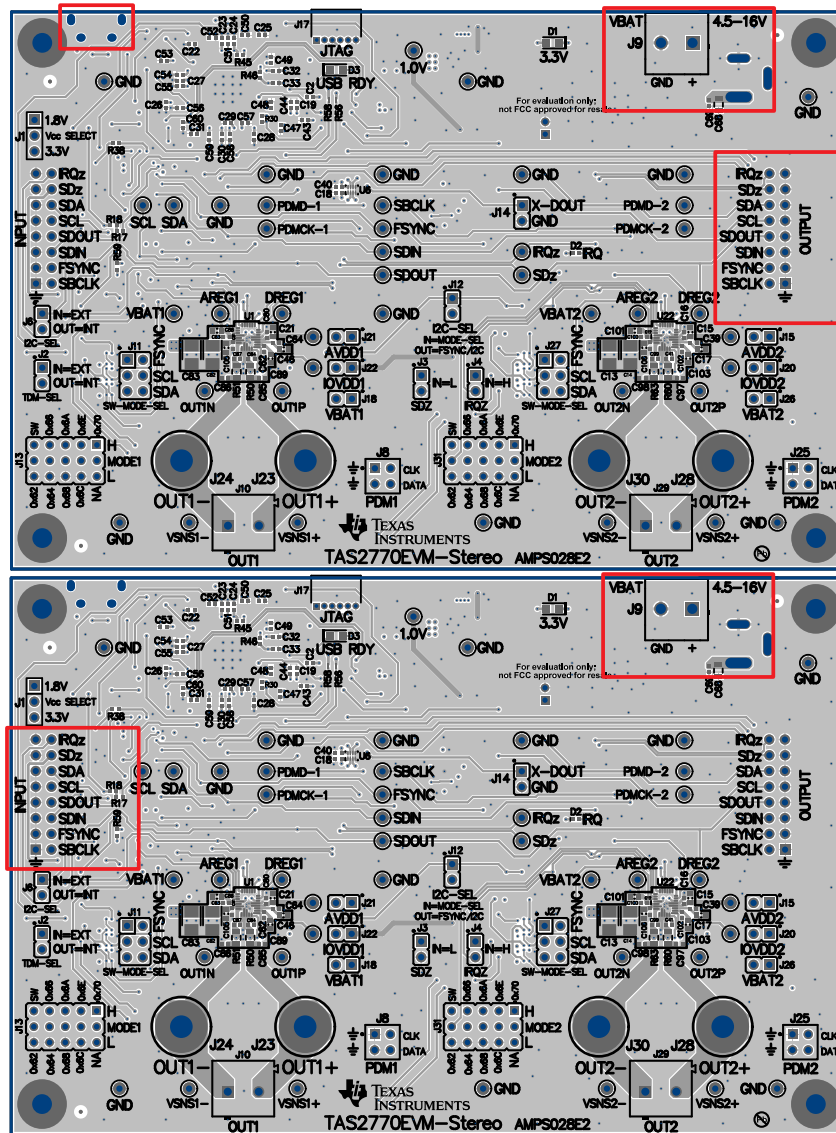

Figure 5. Multi-Channel Setup
4. The leftmost board should have jumpers set to match the Stereo configuration. On all other boards insert a jumper on J2 and J6. See Figure 5 for details.